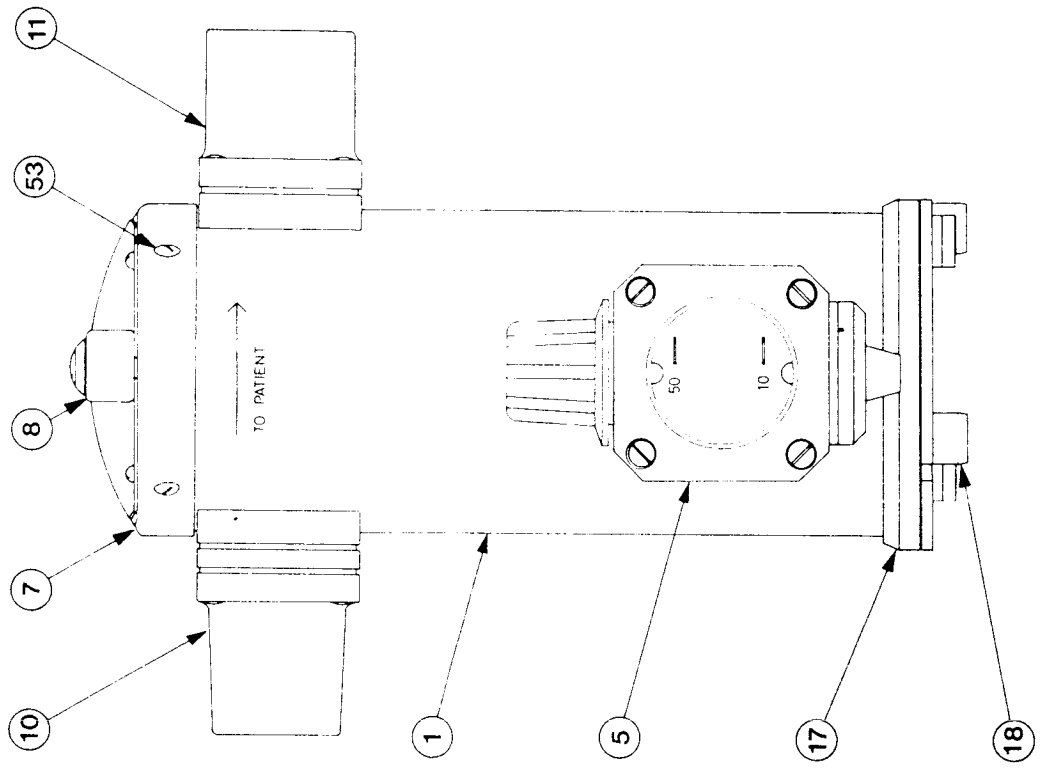

FIG 1.1
Drawings Fig. 1.1 Front View
1.1. Construction of Vaporizer (see Fig 1.1 to 1.5)